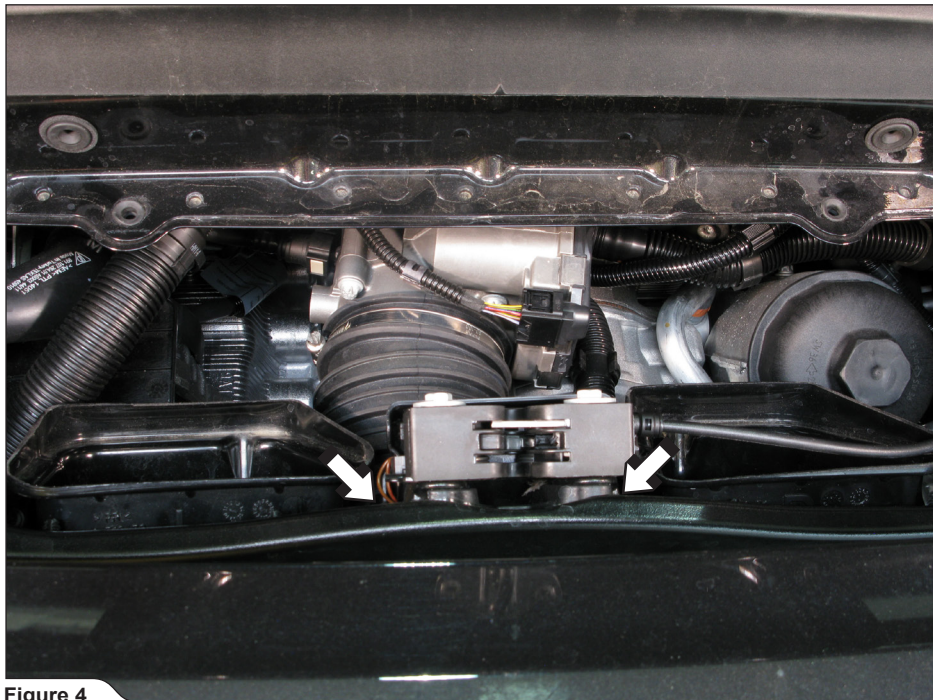

Figure 4
3. Unscrew the two clamps at air box-rubber intake buffer joint (**Figure 4**).